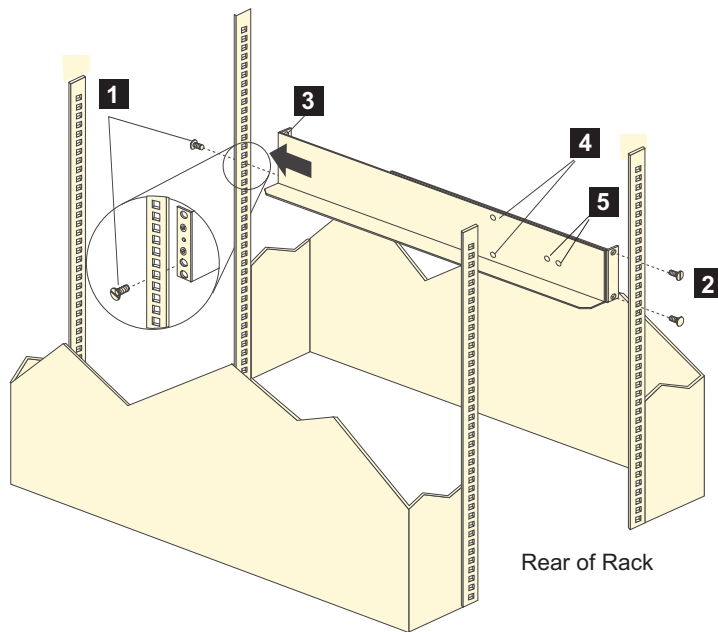

Figure 12. Installing the support rails
Note: Refer to Figure 12 on page 26 while performing these steps.
Note: The support rails are not marked as Left or Right. However, each rail can be correctly mounted on only one side of the rack cabinet. The rails should be mounted with the alignment pins at the back of the rack. Figure 12 on page 26 shows the installation of the left support rail.
2. Remove the four screws from the rails (two screws in each rail). See **4** in Figure 12 on page 26. If you do not remove these screws, the storage expansion enclosure will not fit securely.